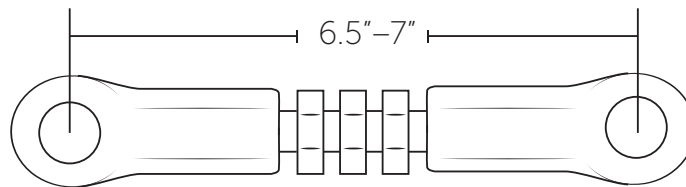

Figure 24
9. Set the Turnbuckle Linkage so that the ends are threaded on equally and about 6.5"-7" from center to center (fig. 24).